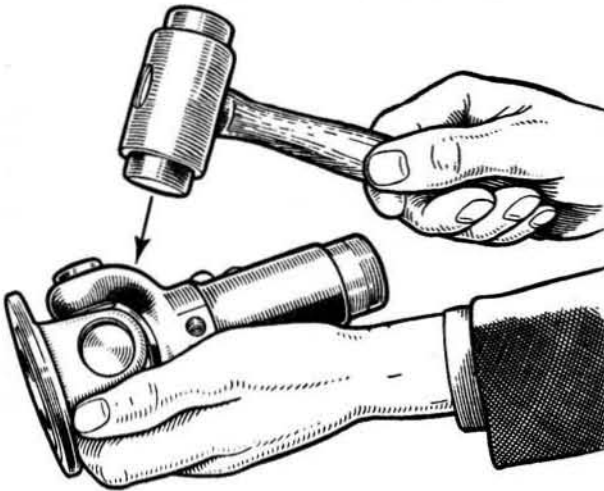
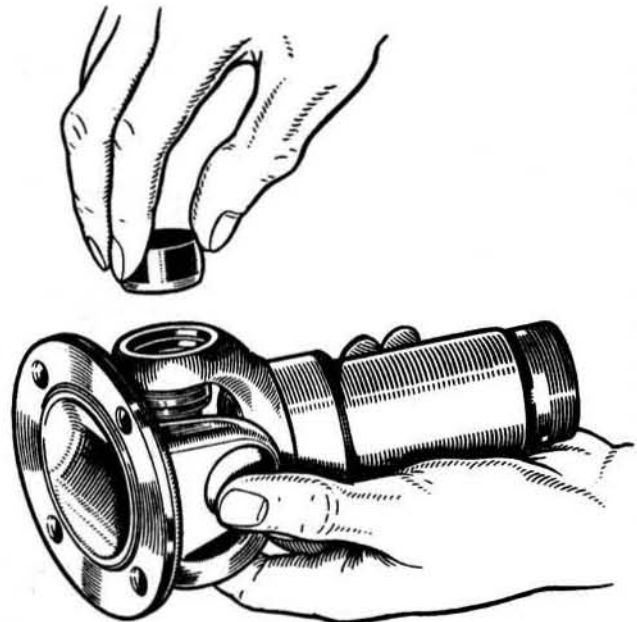
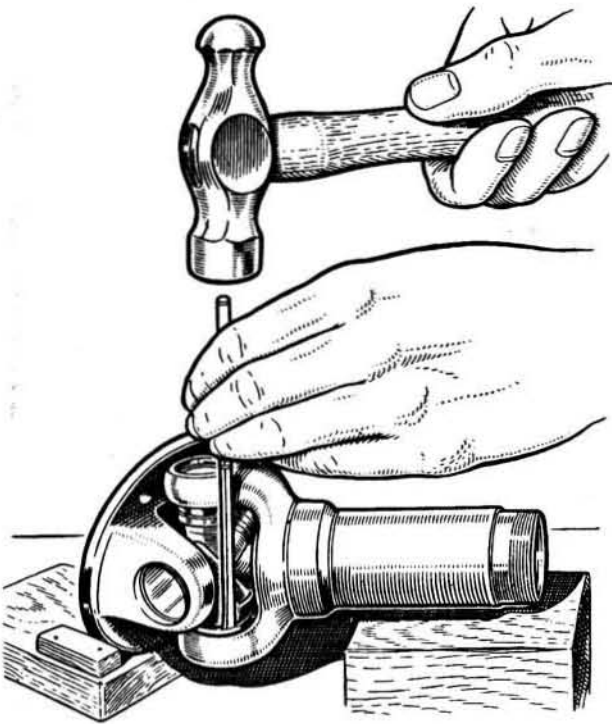

Fig. 7.11. Removing a universal joint bearing
Fig. 7.12. Withdraw the bearing
Fig. 7.13. Tapping out a bearing
- 4 Hold the joint in the hand and with a hide faced or other type of soft hammer, tap the yoke lug as shown in Fig.7.11. This will cause the top bearing to work outwards until it can finally be removed with the fingers (Fig.7.12). If the top bearing proves obstinate it can be tapped out from inside (Fig.7.13) with a small diameter punch or piece of bar but be careful you do not damage the bearing if this is not being replaced.